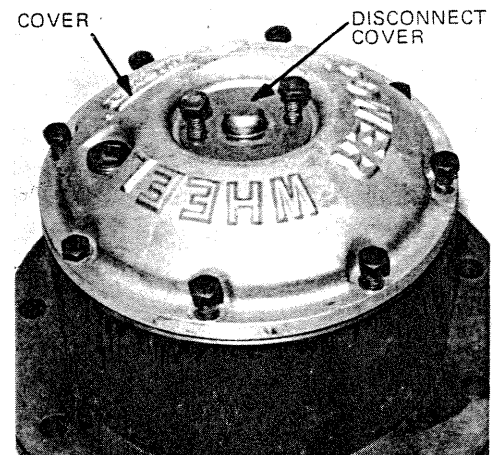

Figure 14 Assemble cover and disconnect cover
**STEP 3** Remove the disengage cover, (Figure 14).
**STEP 4** Remove bolts and large cover, (Figure 14). Disengage plunger usually remains with cover. Remove plunger and "O" ring from cover or end of input shaft.
**STEP 17** Lubricate the "O" ring in groove of disconnect plunger. Assemble the thrust washer with tangs engaged with cover. Apply a bead of RTV compound to end face of ring gear. Assemble cover over plunger as holes of cover and ring gear are aligned, (Figure 14). Assemble the eight 5/16-18 x 1 inch hex head bolts. Tighten bolts to specified torque.
**STEP 18** Assemble the disengage cover as shown if wheel is to be used to drive the vehicle, (Figure 14). Assemble and torque the two 5/16-18 x 3/4 inch bolts.